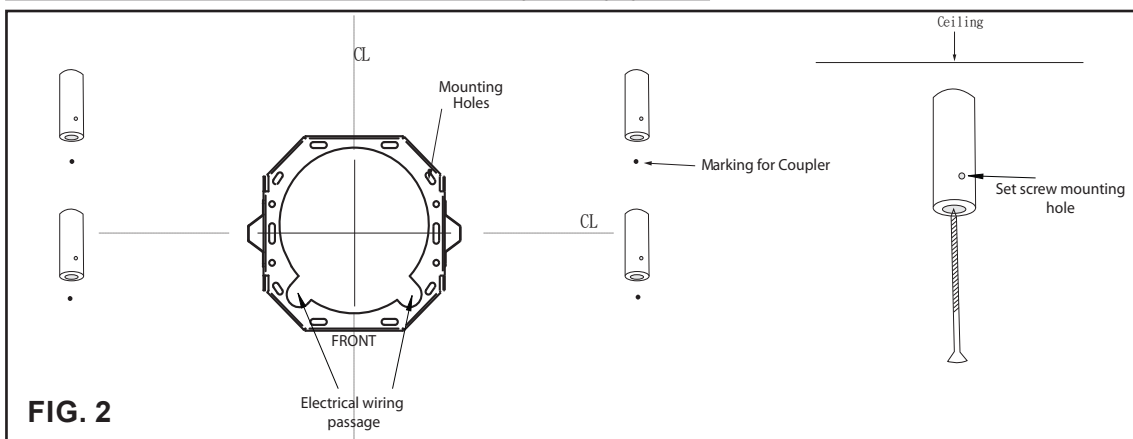

FIG. 2
4. Center, mark and fasten ceiling bracket onto ceiling using (4) M4*38 screws and (4) washers. Make sure the word "FRONT" displayed on the ceiling bracket is facing the front of the hood where the controls will be located. FIG. 2.
5. Attach telescopic rod couplers to marked locations on ceiling using (1) M4*2" wood screw for each coupler. Make sure the set screw mounting hole is toward the bottom of the coupler during mounting. FIG. 2.
Using a small flat head screwdriver, raise the cover of the battery door (A) in order to access the battery compartment. FIG. 2.